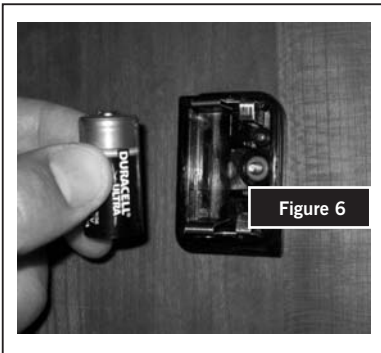

Figure 6
4. Insert new 3-volt CR123 lithium battery according to polarity diagram on the inside of the battery door (see figure 6).